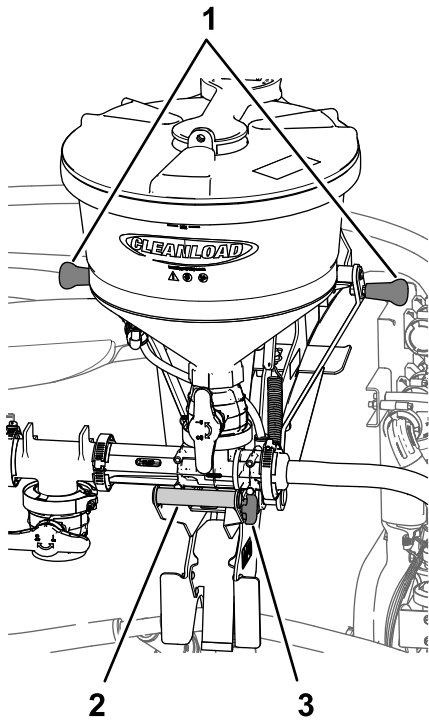
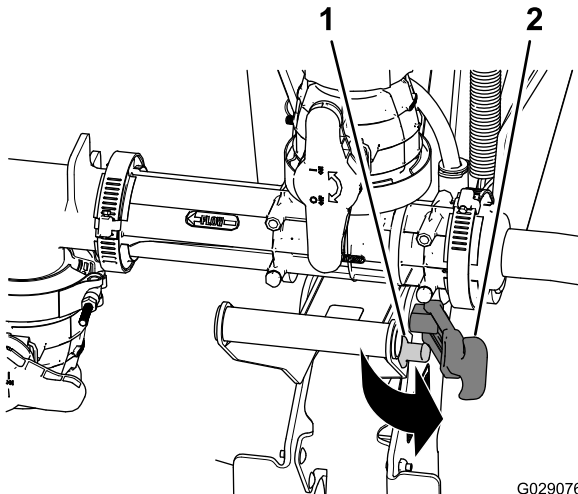
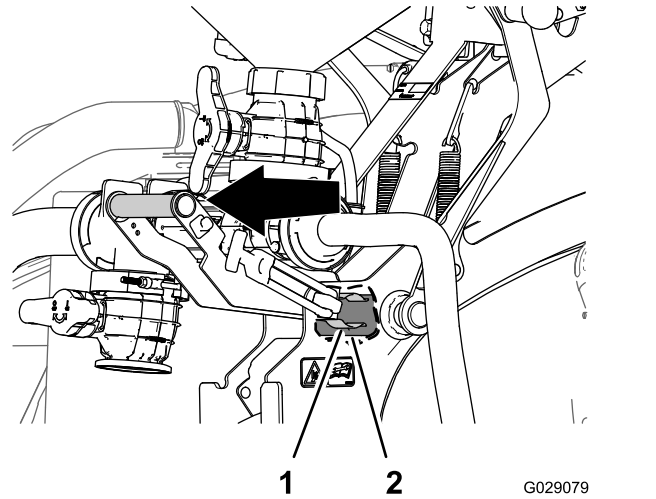
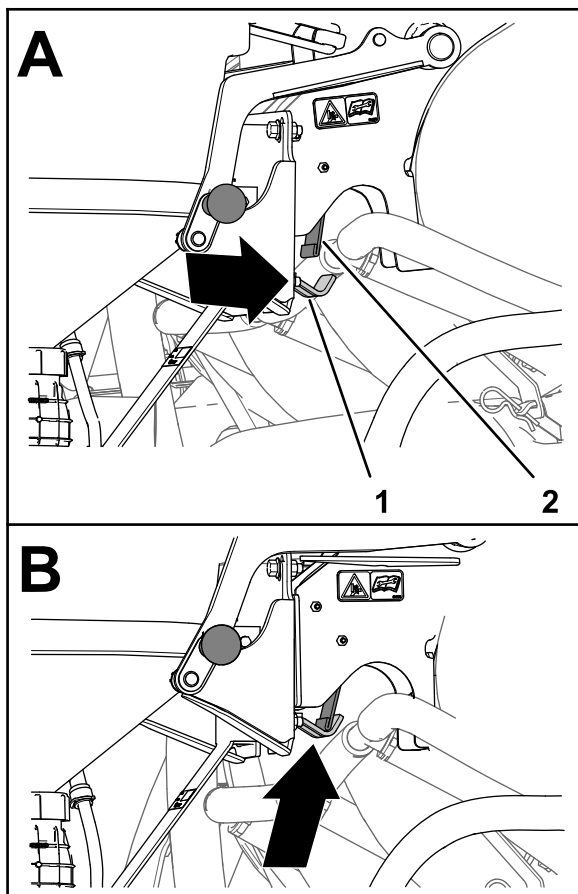

Figure 35
Figure 36
Figure 37
Figure 40
1. Grasp the educator handle and pull the latch handle off the latch post (Figure 35 and Figure 36).
handle out until the spring clip releases from the pivot tube (Figure 35 and Figure 37).
5. When the latch of the back plate is under the spring plate (A of Figure 40), rotate the educor handle inward so that the hook portion of the latch is aligned behind the spring plate (B of Figure 40).
1. Grasp a handle at the top of the cradle in addition to the educor handle and pull the educor handle outward until the hook portion of the latch is aligned outward of the spring plate (Figure 37 and Figure 40).
4. Push in the educor handle so that the hook raises to the latch rod and the spring clip fully seats around the pivot tube (Figure 37).
5. Pull the latch handle onto the latch post (Figure 36).